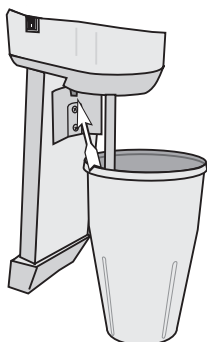

Fig. 16
- 3 Hang the cup to the cup holder to trip the microswitch and start the motor (Fig. 16).